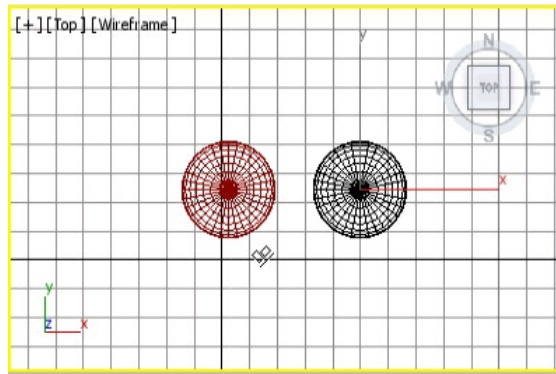
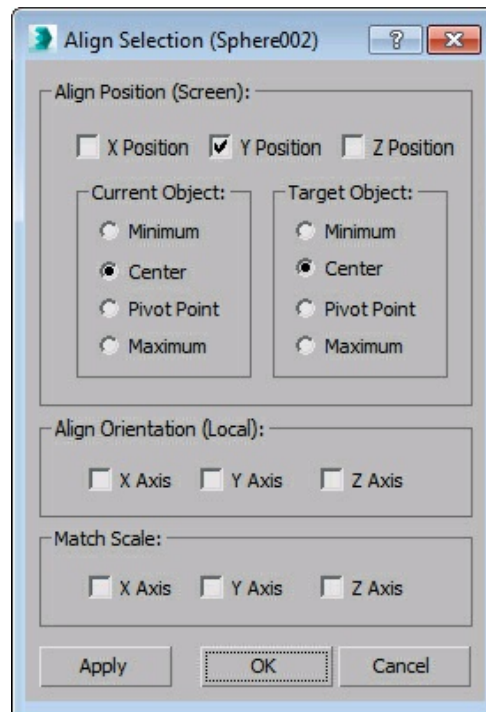

Figure 4-2 The align cursor in the Top viewport
Figure 4-3 The *Align Selection (Sphere002)* dialog box
The **Align** tool enables you to align the current object with the target object. To align an object using the **Align** tool, select the current object and then choose the **Align** tool from the **Main Toolbar**; the shape of the cursor will change, as shown in Figure 4-2. Move the cursor over the target object in the viewport and click on it; the **Align Selection (X)** dialog box will be displayed, refer to Figure 4-3. Here, **X** refers to the name of the target object. You need to use the options in the **Align Selection (X)** dialog box to align the objects. Various areas and options in this dialog box are discussed next.